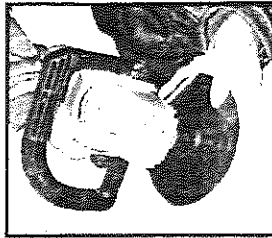

Fig 2
④ When mounting or remove the polish wheel, press self - locking button, return to the original position after mounting the polishing wheel. (see Figure 2)
⑤ When the woolen wheel worn out, change the wheel and the woolen wheel must be concentric alignment with the polishing wheel.